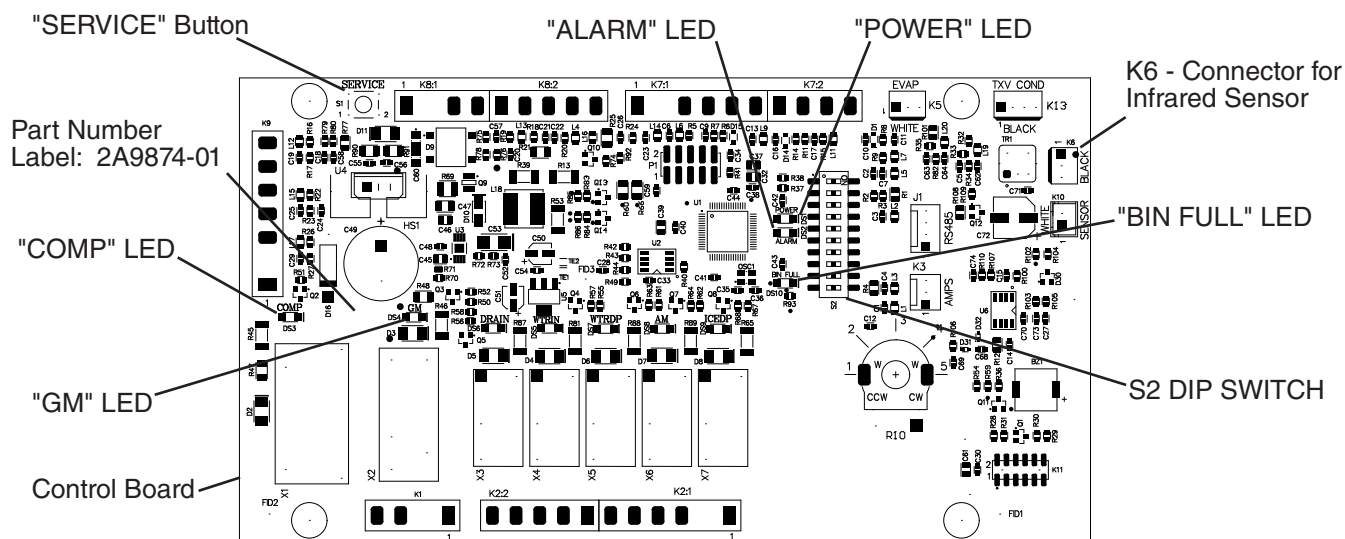

Fig. 10
- 6) Make sure the "GM" LED on the control board is on. See Fig. 10. There is a delay of at least 30 seconds before the "GM" LED turns on after power-up. After the "GM" LED turns on, press the "SERVICE" button on the control board to bypass the 5-minute compressor delay. **WARNING! Risk of electric shock. Care should be taken not to touch live terminals. Confirm the "COMP" LED turns on.**